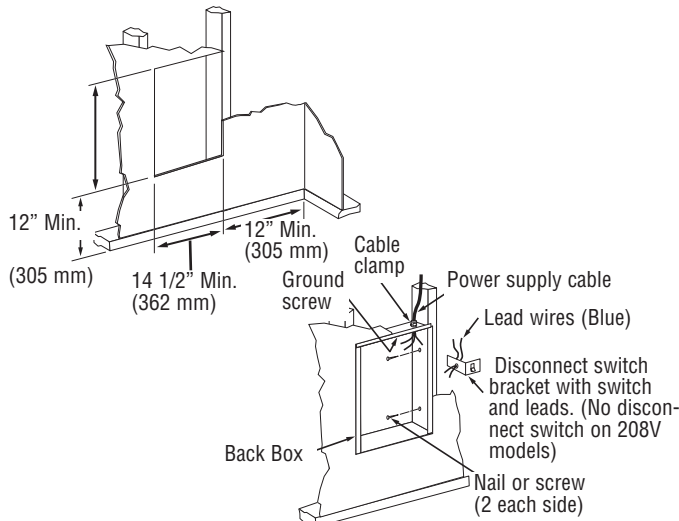

Figure 2: Locating Back Box in Existing Construction
- Provide a wall opening 14-3/4" (375 mm) wide by 18-1/2" (470 mm) high at the desired mounting height, but no closer than 12" (305 mm) from floor. (See Figure 2.) Locate so at least one side of opening is at wall stud.
- Run a power supply cable into the knockout area in the upper right hand corner of the wall opening (see Figure 2). All wiring must be in accordance with National and Local Electrical Codes. Refer to Specifications for correct wire size.